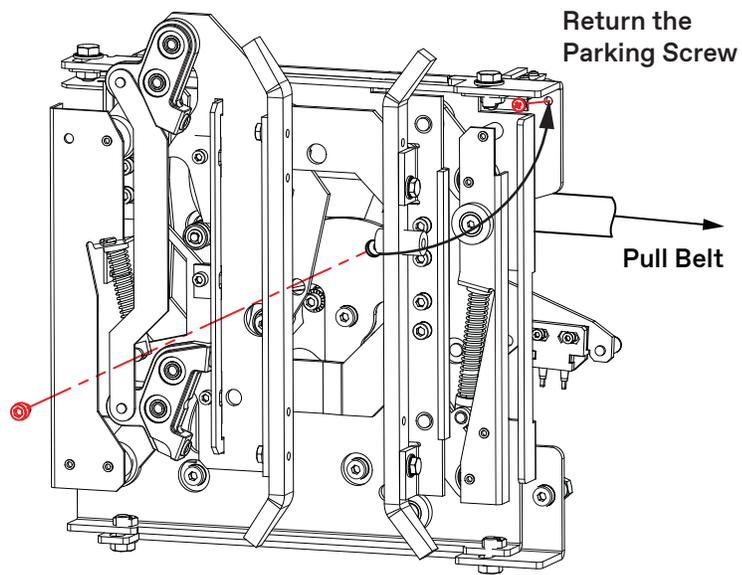

Figure 16 - Unlock the Clutch
6. Pull on the belt to remove the screw from the parking position and unlock the clutch. Return the screw back to the parking position hole. See Figure 16.